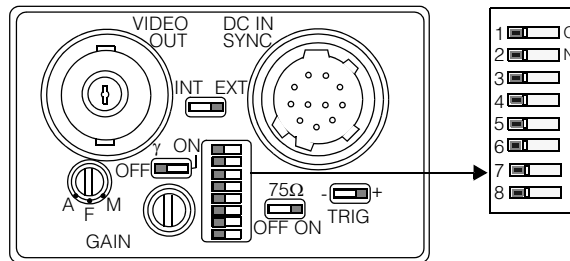

Figure 9. Sony XC-ST50 camera back panel
Figure 9 shows the back panel of the Sony XC-ST50 camera with the switches in their factory default positions.
1. Configure the 8-position DIP switch as shown in Figure 9.